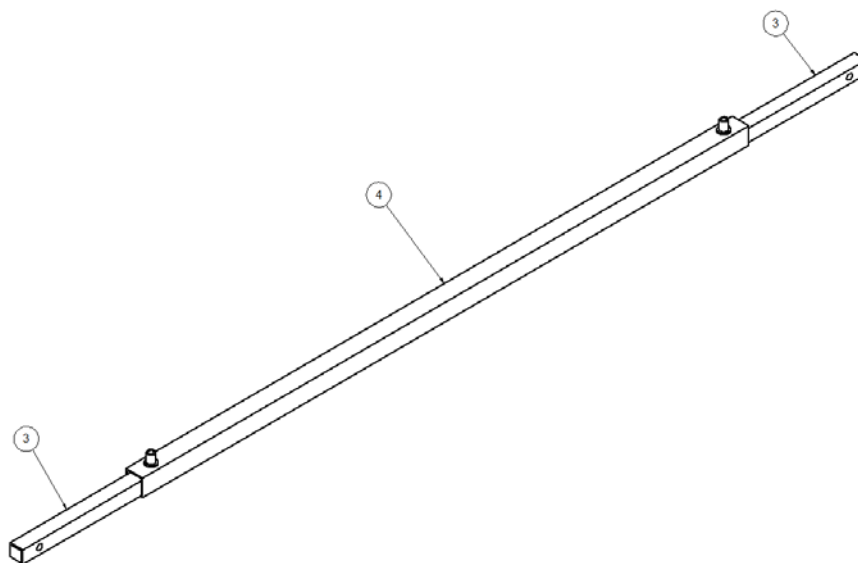

Figure 5: Positioning of the arm and the driving bar axle with the rest of the assembly.
After installing the safety gear (1) on the frame, introduce the arms (3) inside the driving bar axle (4), as shown in Figure 5